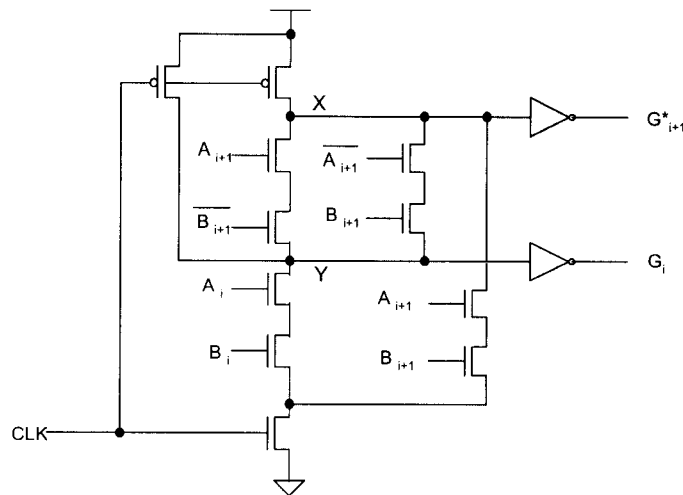

Figure 3.2
- b) Figure 3.2 shows the implementation of a circuit to produce the signals  $G_i$  and  $G_{i+1}^*$ . This circuit uses a variation of Domino Logic called Multiple-Output Domino Logic (MODL). Based on the principle of Domino Logic, explain how this circuit evaluates  $G_i$  and  $G_{i+1}^*$ .